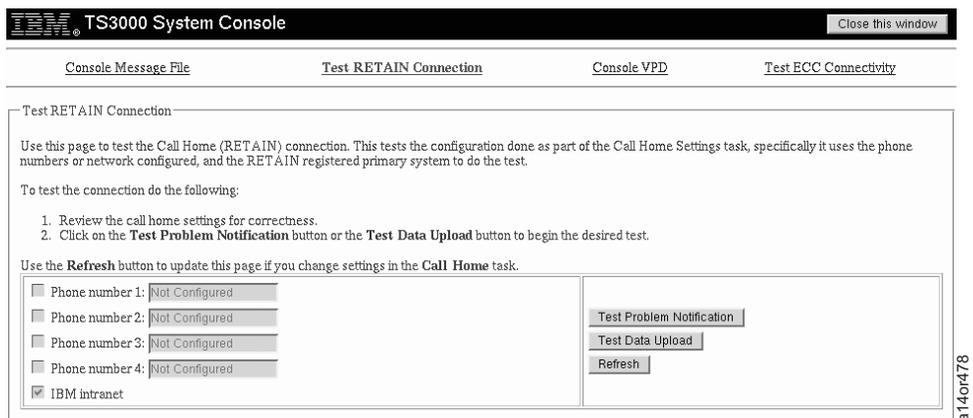

Figure 132. Test RETAIN Connection Request Screen - During Installation
4. Click **Console Status**. The Test RETAIN Connection screen shown in Figure 132 appears.